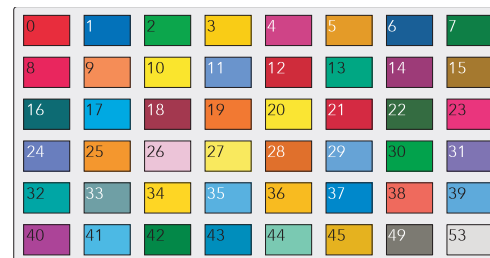

Figure 91 Trend colour swatch
Colour A (B) Allows two alternative colours (A and B) to be specified for the channel. Figure 91 gives an approximate rendering.